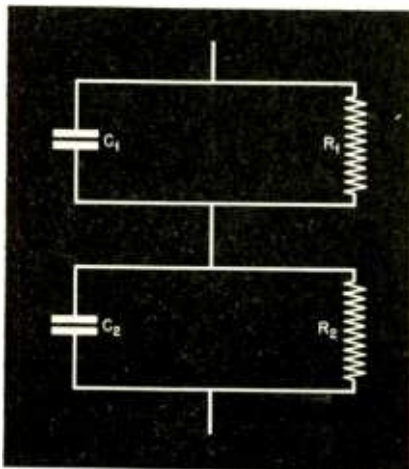

Fig. 1. Equivalent circuit of an electrolytic condenser
Frequency characteristics of the equivalent circuit (Fig. 1) for different values of  $R_2$ . The solid line in (A) above, and (B) below, shows the resulting curve when the resistivity of the electrolyte is decreased with respect to that represented by the dotted line
An electrolytic condenser can, like other electrical devices, be represented by a number of equivalent circuits. Of these the simplest and one which admits of the most straightforward physical interpretation is shown in Fig. 1. This R-C network is constituted as follows: